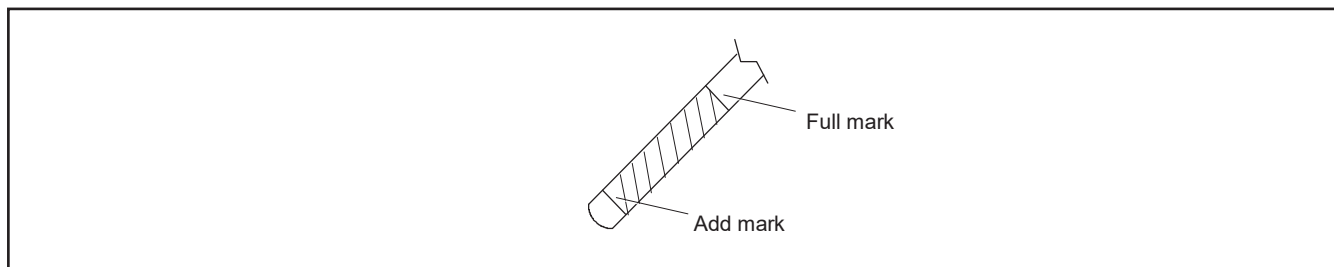

Figure 21 Oil Dipstick
5. Pull out the dipstick again to check the oil level. The oil level should be maintained between the Full and Add marks. See Figure 21.